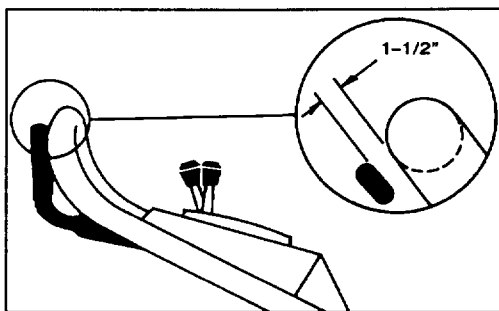

Figure 15
3. Lift control bar until some resistance is felt. Control bar should be 1 1/2" from handle when properly adjusted (Fig. 15).